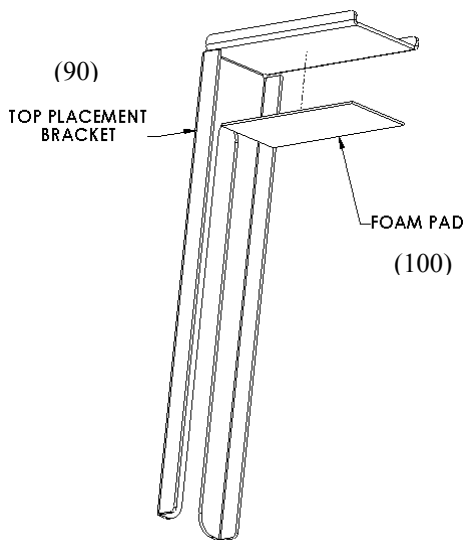

Figure 7. Install Foam Pads
1. Locate both top placement brackets (90) and the foam pads (100).
2. Remove the protective strip to expose the adhesive on the foam pad (100).
3. Carefully apply the foam pad (100) on the top placement bracket (90) as shown in Figure 7.